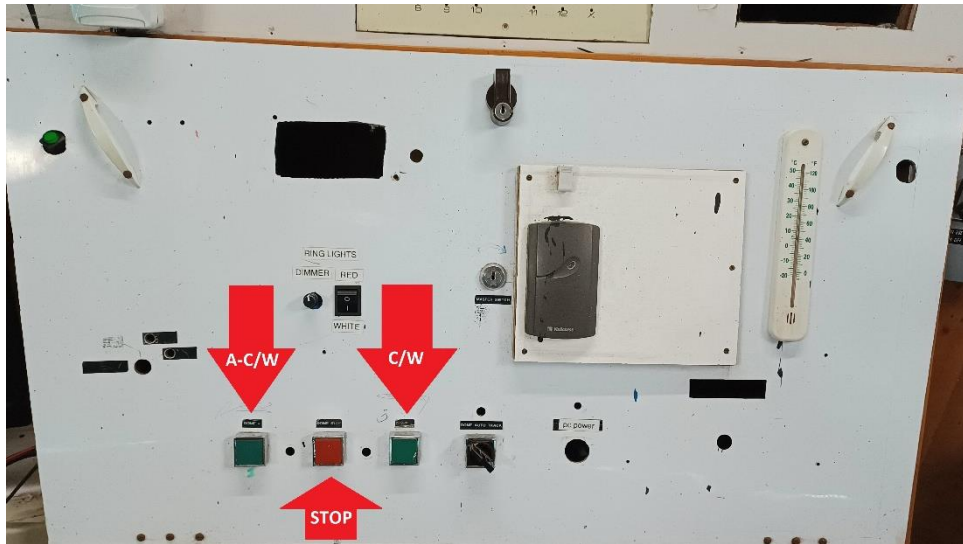
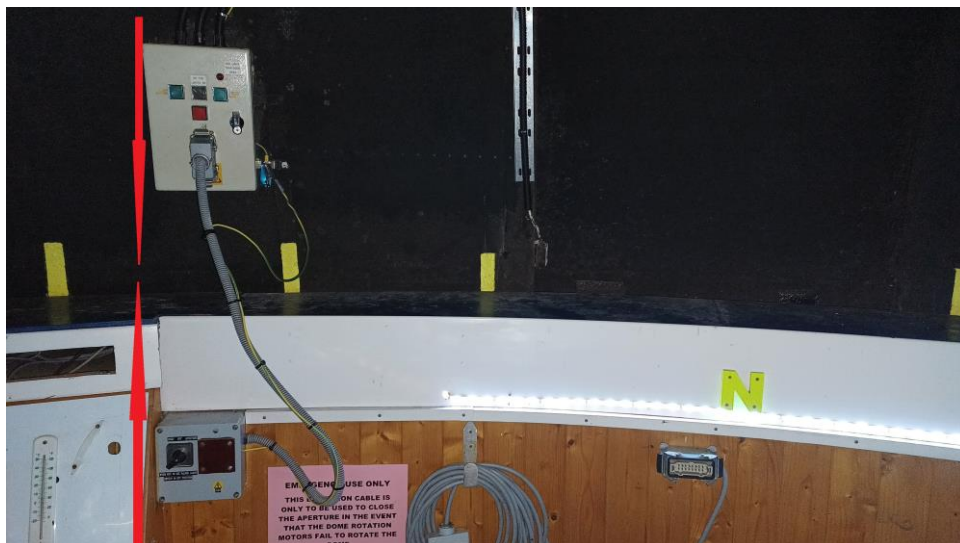

Fig. 17: Control Panel dome rotation switches
Fig. 31: Dome Home Position
9) To rotate the dome round to allow viewing on the desired object through the dome aperture use the green/red square buttons on the Control Panel as shown in Fig. 17 below:
7) Next slew the DOME back round back to its HOME position (left-hand edge of the Dome Control Box roughly aligning with the right-hand side of the control panel (see Fig. 31 below) using the green/red buttons as before on the control panel (see Fig. 17). (Should there be a dome motor failure then you may need to use the Emergency Cable Procedure noted in H&S Section 10).